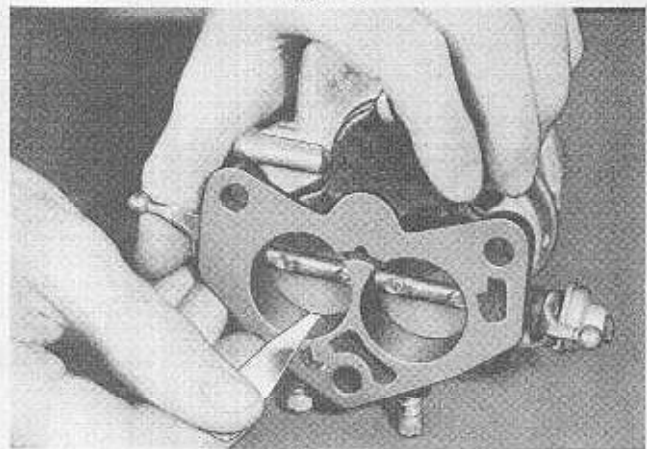

Fig. 44
- (1) 78-9563 Gasket—Drain plug
**75** Set idle speed approximately correct for 5 to 7 miles per hour speed in high gear by using a .006" and a .010" feeler blade as shown in Fig. 44. Adjust idle speed adjusting screw so the .006" thick feeler **will** slip between edge of throttle plate and throat, but so that the